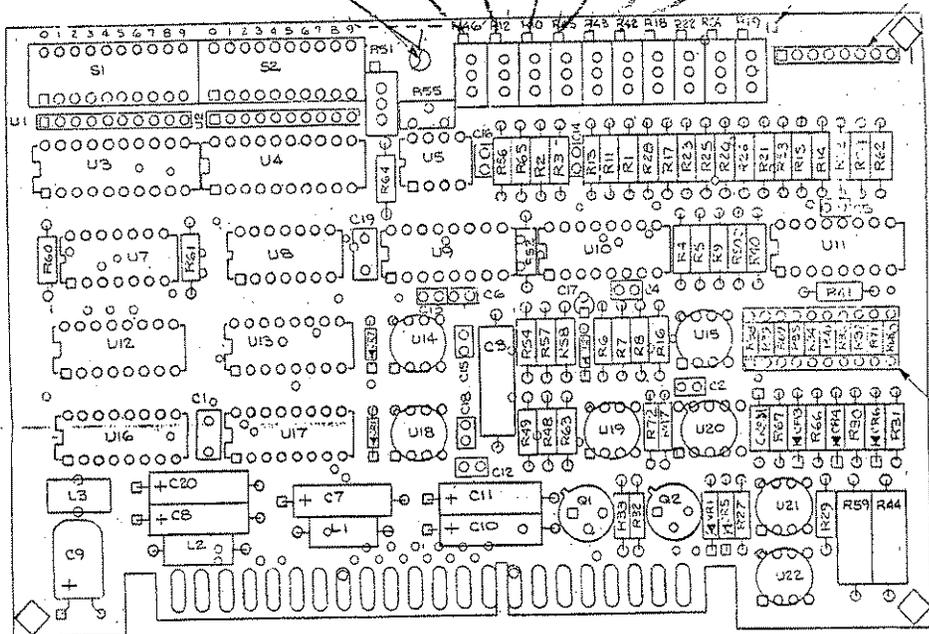

Figure 5-25. YTM Delay Compensation Adjustment Locations
1. Connect the equipment as shown in Figure 5-24. Do not connect the BNC cable between the 8350A rear panel POS Z BLANK and the 180TR AUX C connector yet. Preset A7R45 (SEQ TC) fully counter-clockwise. Refer to Figure 5-25 for adjustment locations. Allow the equipment to warm up for 1 hour.